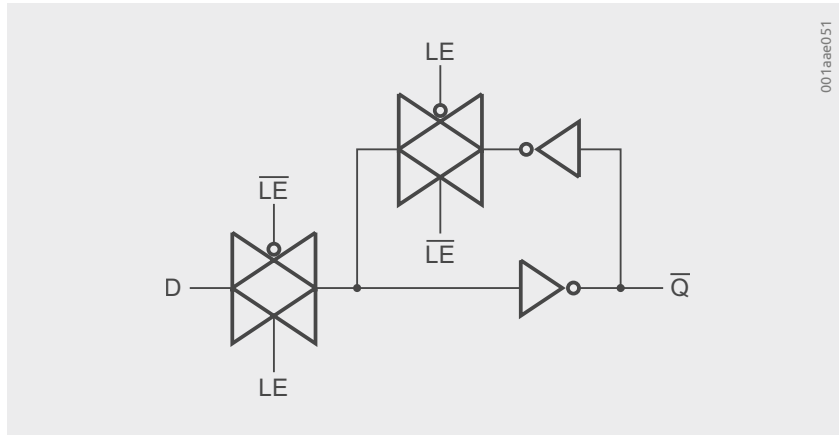

Figure 6.18 | Transparent Latch
Different from the principle diagram in Figure 6.17, a transparent latch can be designed like shown in Figure 6.18. For Latch Enable (LE) in high state the incoming signal D is fed to the inverter towards the output, with the left side switch in on-state. The switch in the feedback loop is in off-state. If LE is turned off, incoming data are disconnected by the switch at the data input which is in off-state. The second switch feeds back the inverted QN signal to the input of the output inverter, so the current state is kept stable and stored.